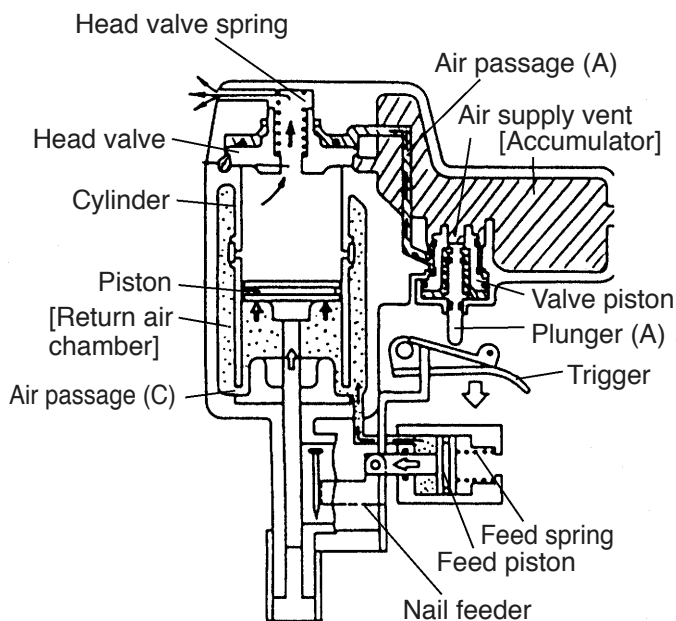

Fig. 11 During return
1. When the piston moves down inside the cylinder, the air below the piston flows through air passage (C) under the cylinder and is accumulated in the return air chamber together with the compressed air flowing through the cylinder hole.
(4) After nailing (See Fig. 11.)